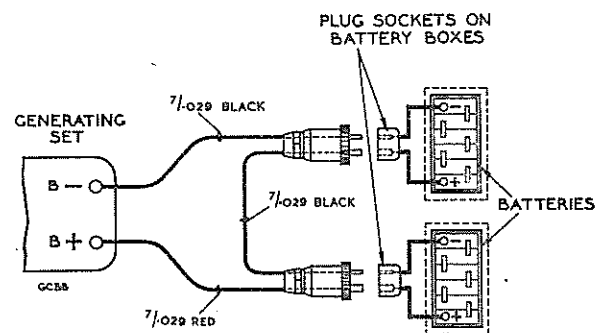

FIG. 7
16. Two batteries are required for each generating set and should be connected in series by wiring the plugs in series as shown in fig.7 "Cable, E.L., 250v.,.0045 sq.in., 7/.029" should be used for the connecting leads, which should be as short as possible. Black cable should be used for the lead from the negative battery terminal to terminal B- on the set and red cable for the positive lead to B+ and care should always be taken to connect the batteries correctly.